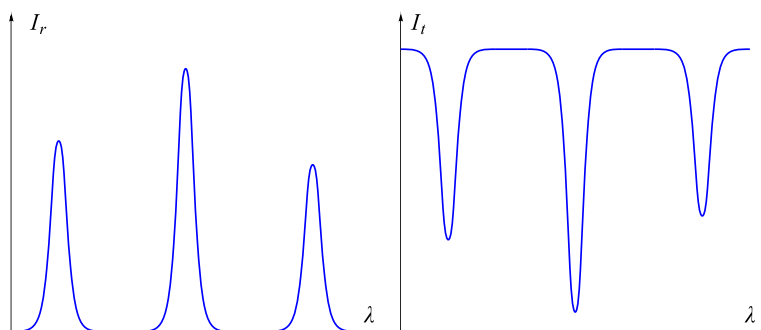

Fig. 9: Reflectance and transmittance spectra.
Equation (2) is called the **Bragg-Snell law**. Transmittance minimums are observed at the same angles θ_i . If angle θ is constant, and wavelength λ varies, Bragg-Snell law may be regarded as an equation for λ . Fig.9 shows sketches of reflectance and transmittance spectra. Each transmittance minimum corresponds to some integer m value according to the Bragg-Snell law.